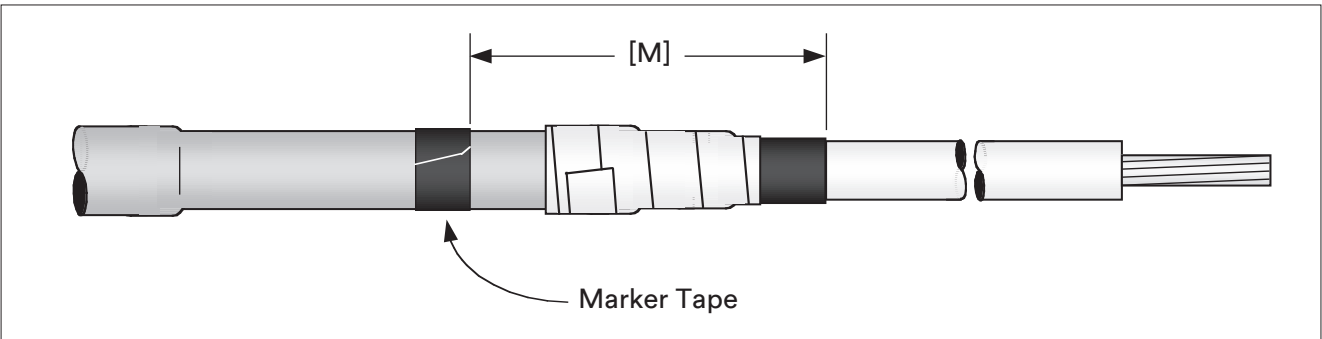

Figure 21
6.4 Place a termination installation marker tape at Dimension [M] measured from semi-con leading edge as shown (Figure 21).